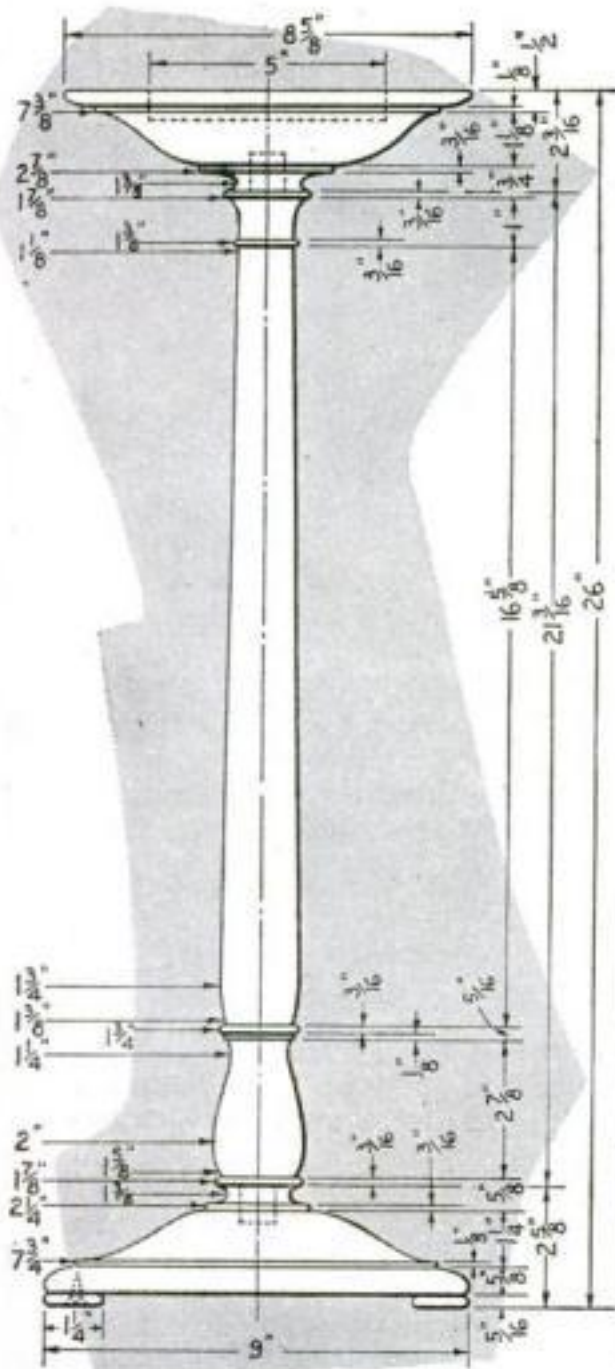

FIG. 4
**S**IMILAR problems in turning are involved in making the smoking stand shown in Fig. 4. It consists of three main parts—the base, the upright, and the top. First turn the upright.